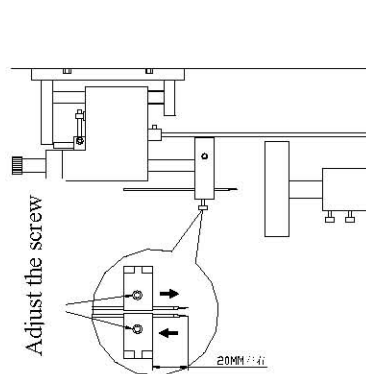

Fig.6: Adjust Height of Welding Electrode
- 2、 Adjust the height of welding electrode (See Fig.6):
- 1、 Adjust the height of welding electrodes (See Fig.6):